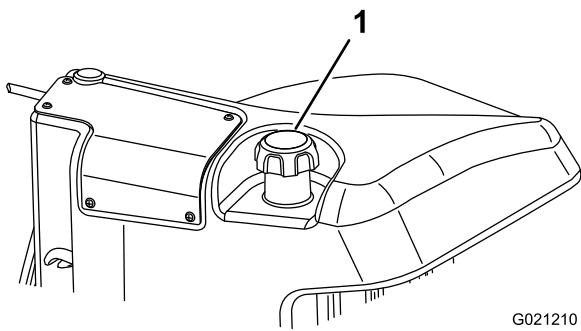

Figure 22
3. Remove the cap from the fuel tank (Figure 22).